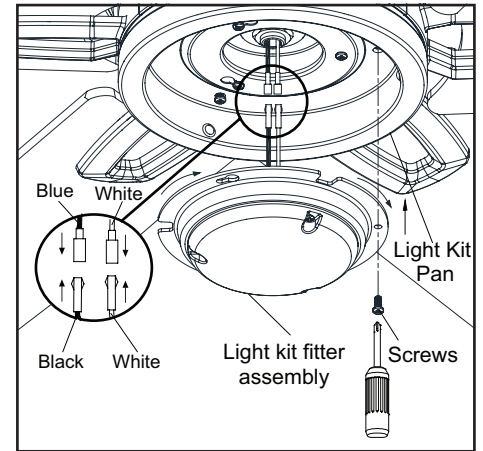

Figure 14
3. Remove one screw from the light kit pan and loosen, but do not remove the other two screws. Connect the wires from the light kit fitter assembly to the wires from the fan motor assembly by connecting the molded adaptor plugs together. Carefully tuck all wires and splices into the switch cap. (Figure 14)
Re-install the screw that was removed in step 3 and tighten firmly. (Figure 14)